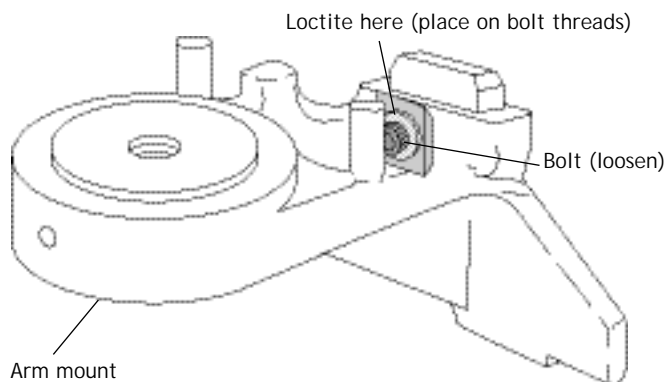
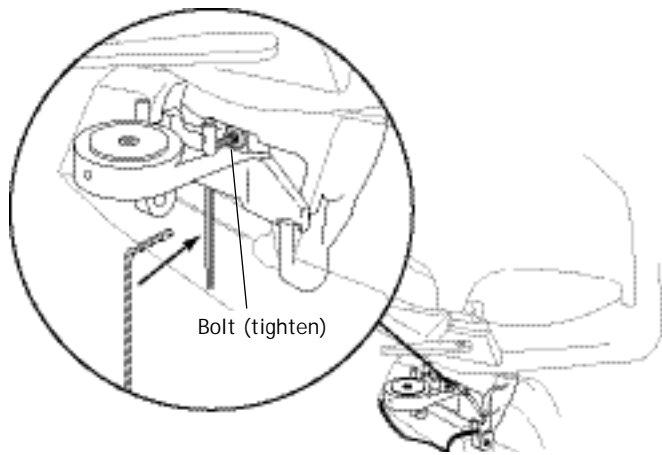

Figure 6
Figure 8
1. Remove the arm mount from the shipping carton. Loosen the bolt almost all the way (see Figure 6).
2. Place a small amount of blue Loctite® on the threads of the bolt (see Figure 6).
4. Tighten the bolt securing the mounting block to the swivel casting (see Figure 6 and Figure 8).